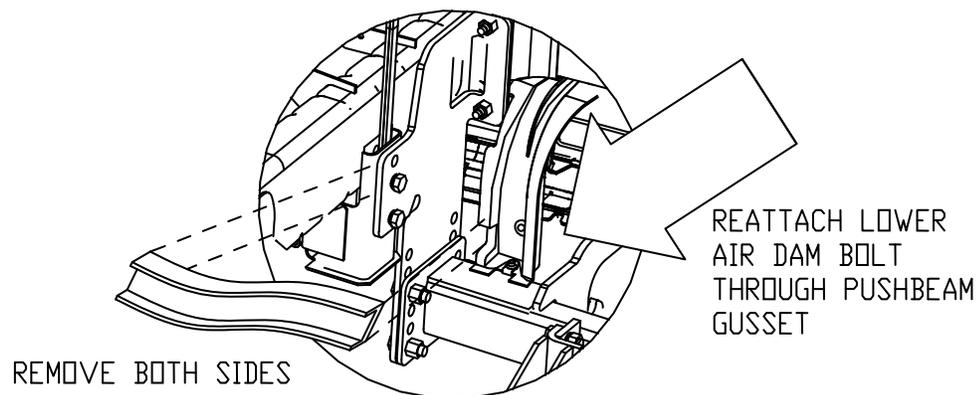

Figure 1
- i. Cut plastic bumper support arm (See Figure 1).